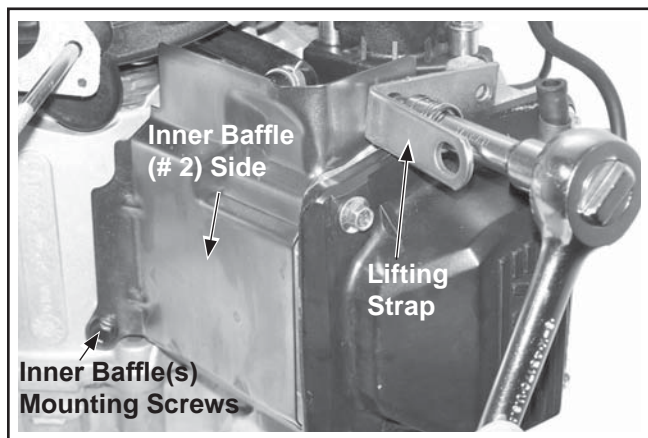

Figure 8-20. Removing Inner Baffles.
1. Remove the mounting screws securing the two inner baffles to the crankcase. Note the position of any lifting bracket(s). Remove the inner baffles. See Figure 8-20.